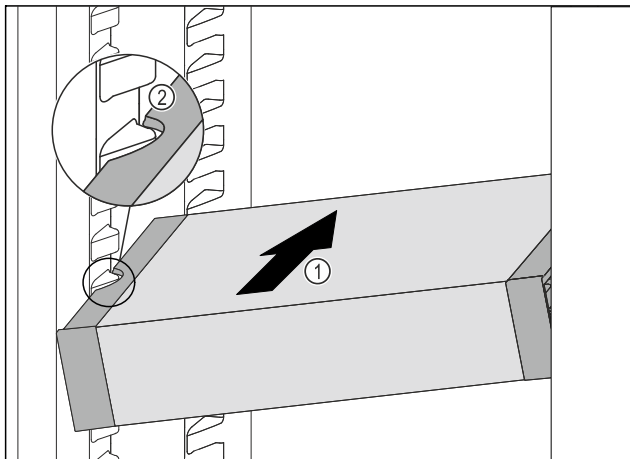

Fig. 139
- ▶ Insert the VarioSafe into the fridge section at an angle Fig. 139 (1) until the recesses in the side Fig. 139 (2) of the VarioSafe are at the level of the support rib in the fridge section.